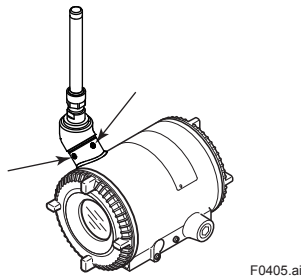

Figure 4.5 Mounting Screw Position
Adjust the direction of the antenna to be in the upright position. Figure 4.5 show factory setup antenna position. If the transmitter is installed to horizontal impulse piping, follow the procedure below and change the antenna position.
- 1) Loosen the two mounting screws at the bottom of the antenna by using a 2.5mm Allen wrench (see Figure 4.5). The screws might come off and be lost if loosened too much; loosen the screws by about three rotations.